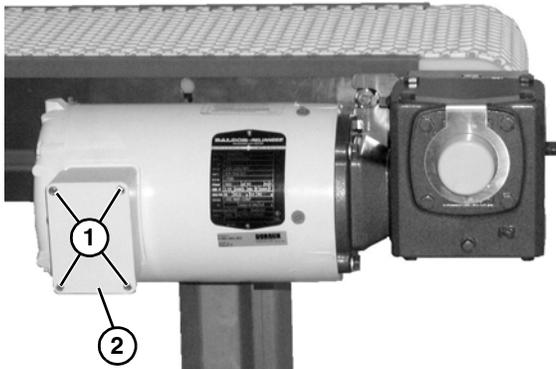

Figure 39
1. Loosen terminal box screws (Figure 39, item 1) and remove cover (Figure 39, item 2).